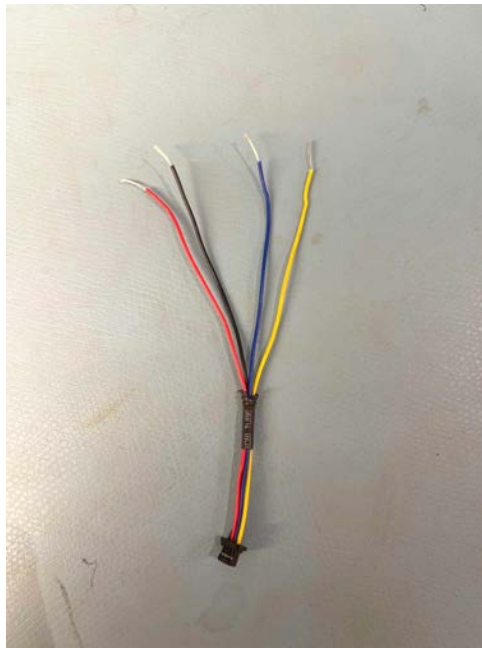

Figure 82: The wire stripper is used to strip off 5 mm of casing for each wire
3. Using a wire stripper, strip off 5 mm of the wire insulation for each wire (Fig 82).